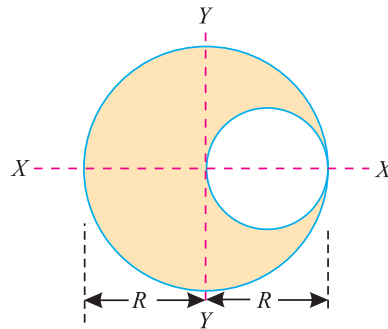

Fig. 7.25.
- A circular hole of diameter  $R$  is punched out from a circular plate of radius  $R$  shown in Fig. 7.25. Find the moment of inertia about both the centroidal axes.